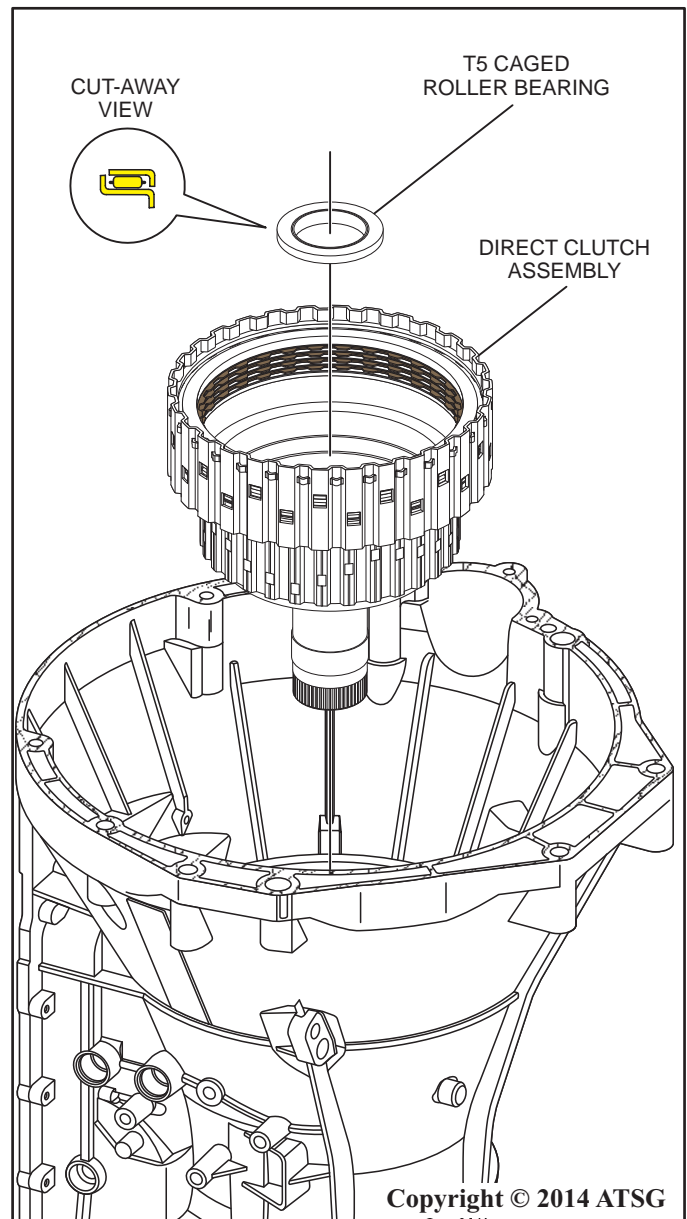

Figure 50
29. Lift and remove the T5 caged roller bearing from the transmission as shown in Figure 50. *Note: the T5 caged roller bearing may come out with the forward/overdrive clutch assembly. Use care not to lose the bearing if it does.*
30. Remove the direct clutch assembly as shown in Figure 50 and set aside for disassembly and cleaning.